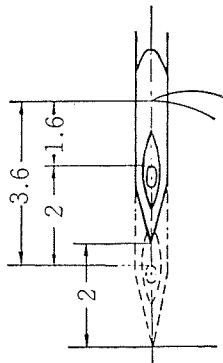

Fig. 18
Thereafter, fix the needle and match the timing of the sewing hook with that of the needle as shown in Fig.18 and fix the sewing hook in such a position.
18. Relation between the needle and the hook point (Figs.18, 19 and 20)
In order to provide the optimal sewing condition, the relative positions of the needle and the sewing hook point should be in accordance with the prescribed relationship. Namely, the point of the sewing hook should coincide with the center line of the needle at the point where the needle is positioned 2mm above the lowest point as shown in Fig.18, when the distance between the hook point and the upper end of the needle eye should be 1.6mm.